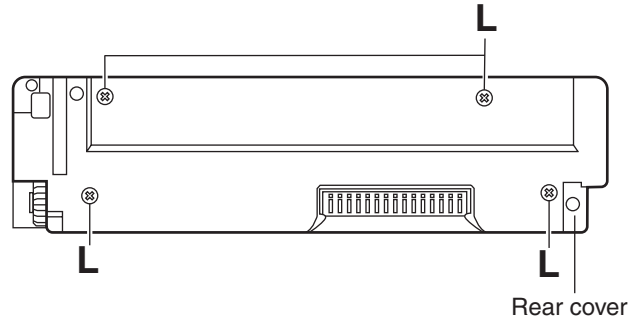

Fig.10
3.1.9 Removing the front board (See Figs.10 to 12)
- (1) Remove the four screws **L** attaching the rear cover on the back side of the front panel assembly. (See Fig.10.)